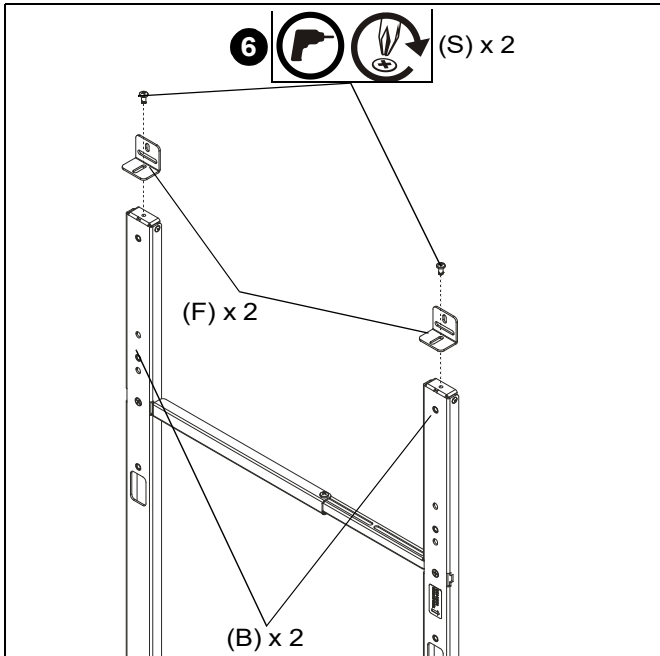

Figure 3
6. Use #3 drill bit (V) and two 1/4-20 x 1/2" button head cap screws (S) to secure two wall brackets (F) to top uprights (B). (See Figure 3)